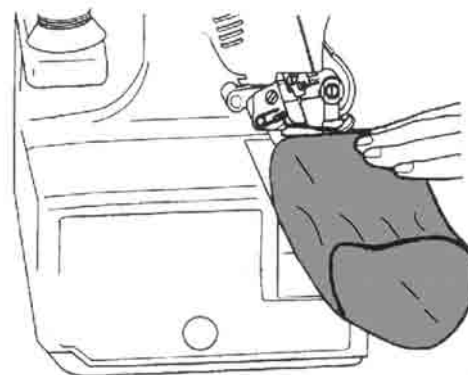

Fig. 47
- You can now pull the textiles over the free arm ⑫ and work them (Fig. 47).